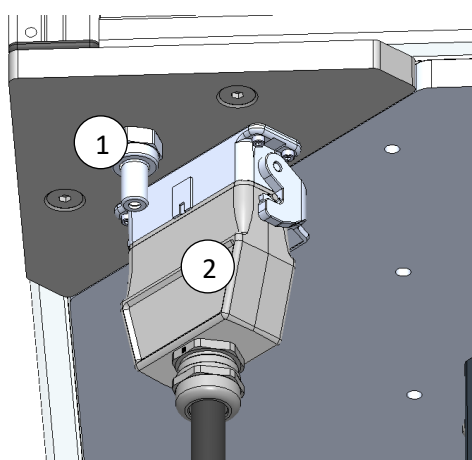

Fig 6-1: Quick release compressed-air coupling (1) and machine interface (Harting plug, 2)
- 8 ½-inch quick-release compressed-air coupling for the gripper's compressed-air supply and machine interface (Harting plug) see the following detailed illustration (Fig 6-1)